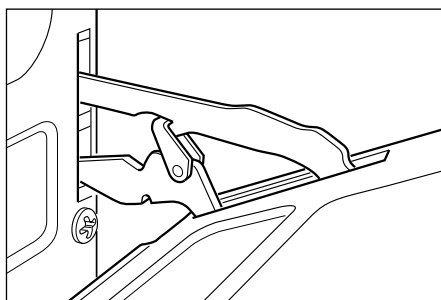

Fig.28c
- Lift the oven door slightly. The notch on the bottom of the hinge will disengage (Fig. 28c).